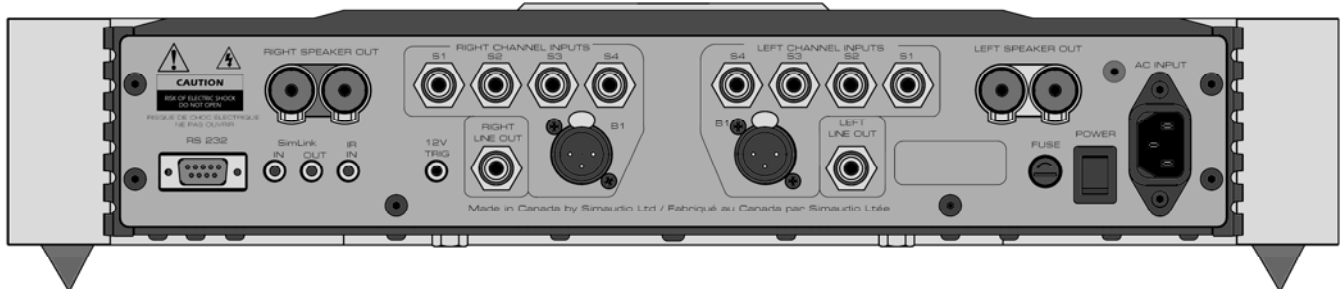

Figure 2: Rear panel of MOON 600i Integrated Amplifier
The rear panel of the **MOON 600i** dual-mono integrated amplifier will look similar to Figure 2 (above). There are two rows of connectors; the upper row contains one pair of heavy duty gold-plated speaker binding posts for each channel to connect to your loudspeakers. In between these binding posts are four (4) pairs of single-ended RCA inputs labeled S1, S2, S3, and S4. This layout is the result of **600i**'s dual-mono design, the left channel inputs/outputs are grouped together on one side and the right channel inputs/outputs are grouped together on the opposite side.